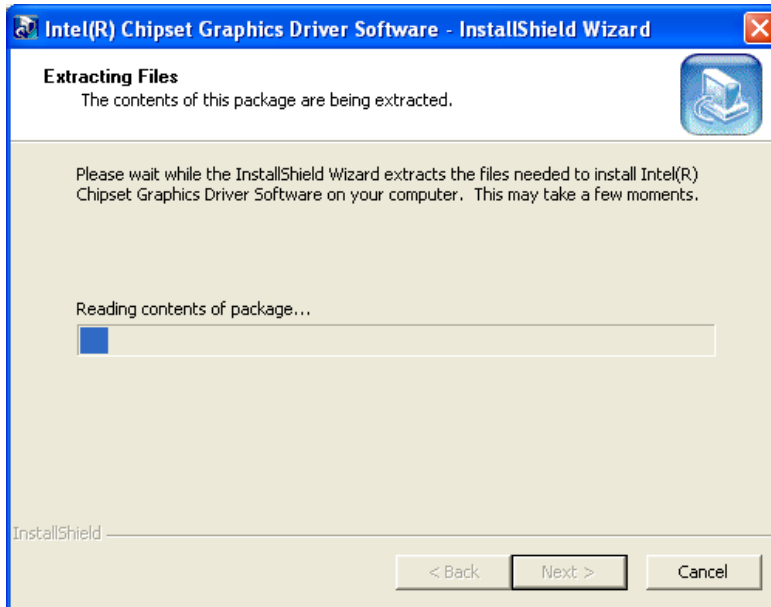

Figure 6-8: Graphics Driver Setup Files Extracted
Step 6: The installation files are extracted. See **Figure 6-8**.